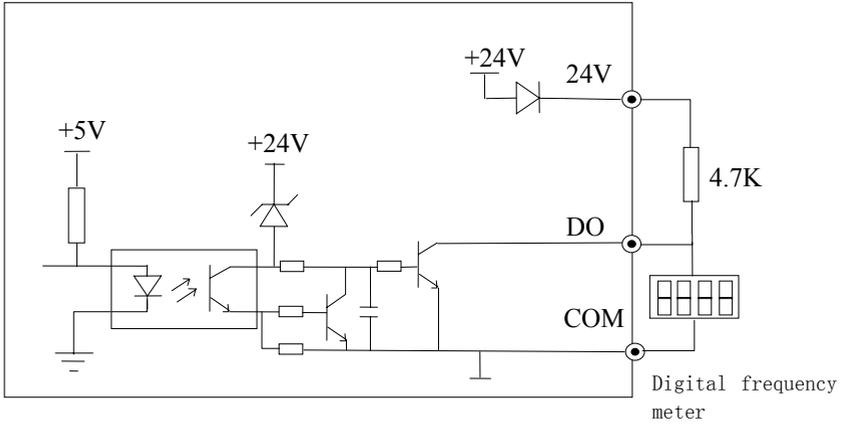

Fig 2-27 Wiring method 1 of DO as pulse output
3) Multi-function output terminals / Pulse output terminal DO as pulse output can use the internal 24 V power supply and the wiring is shown in Figure 2-27.